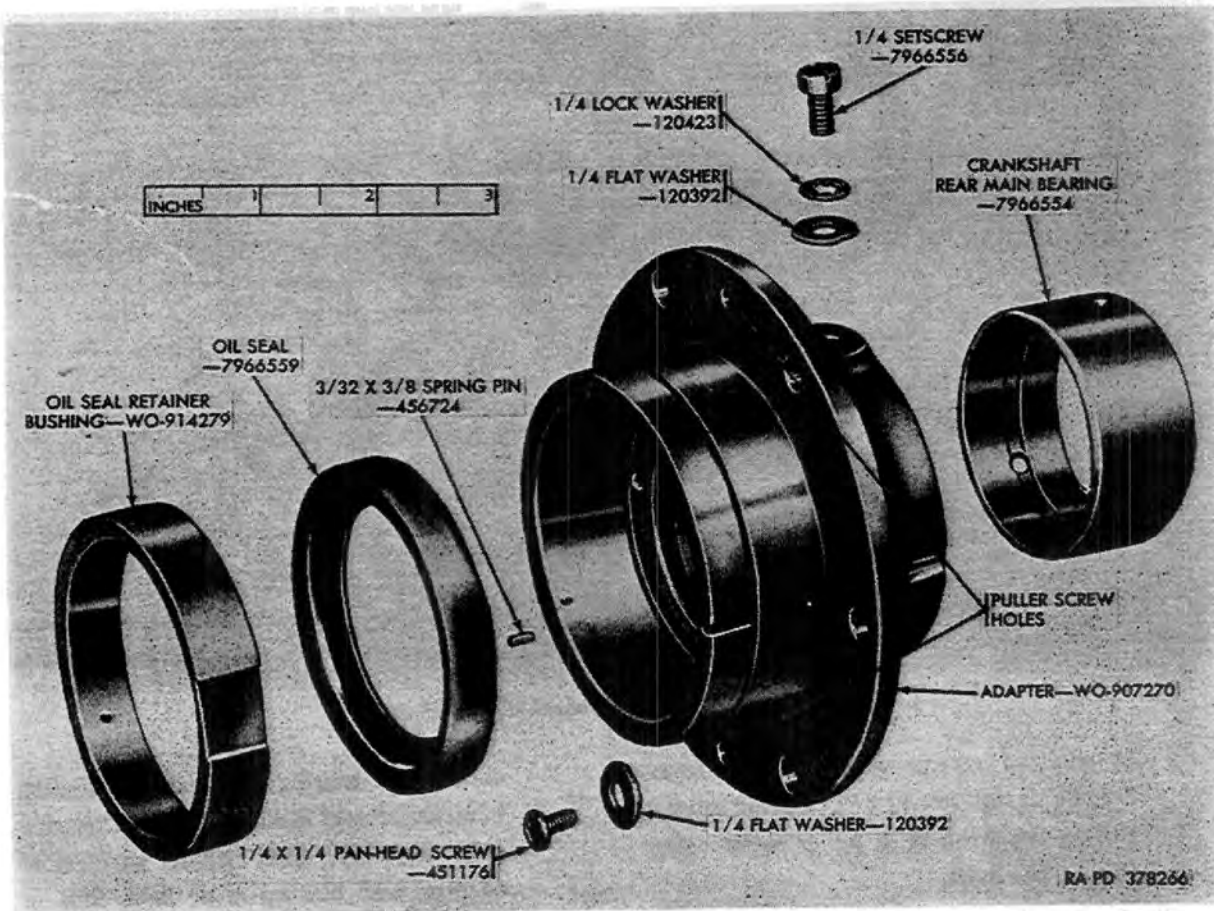

Figure 39. Crankshaft adapter assembly—Exploded view.
a. *Remove Crankshaft and Crankshaft Adapter.* Remove six hex nuts (N), lockwashers (P), and flat washers (Q) attaching crankshaft adapter (D) to cylinder block and pull crankshaft adapter and crankshaft from cylinder block. Remove and dis-
card gasket (A). Remove adapter and thrust washer (B) from crankshaft. If thrust washer adheres to cylinder block, remove. The crankshaft adapter is provided with two puller screw holes for use in pulling the adapter in stubborn cases. If required, remove two screws and plain washers from adapter (fig. 39) and install two $\frac{1}{4}$ -20 cap screws with $\frac{3}{4}$ -inch minimum thread length and pull adapter from cylinder block.
b. *Remove Flywheel Housing.* Remove five hex nuts (L) and lockwashers (M) attaching flywheel housing (H) to cylinder block, and pull housing from studs.
(fig. 39)